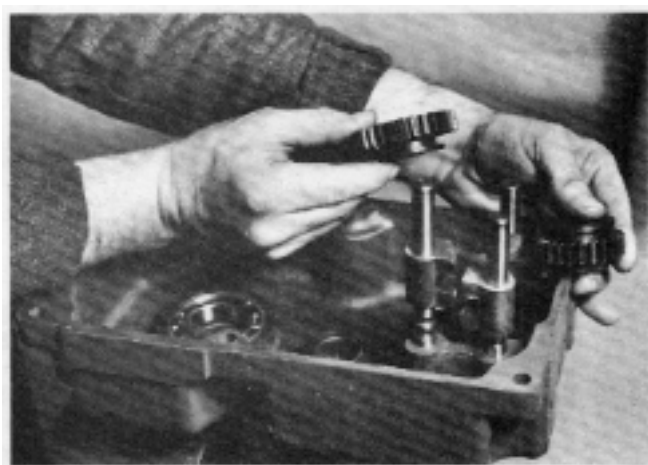

FIGURE 7
13. Remove the 2nd and high sliding gear and the low and reverse sliding gear, as shown in Figure 7.